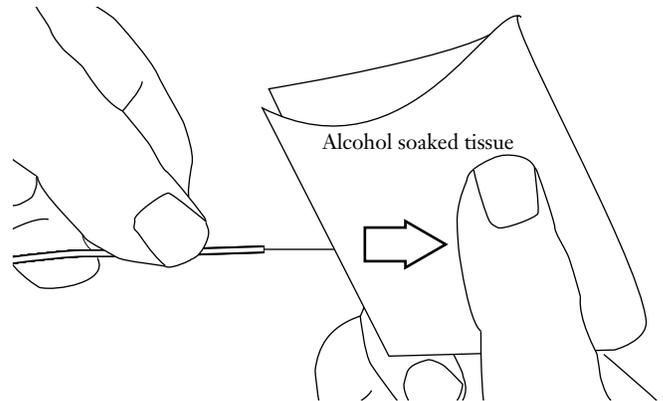

Figure 10
**4.11** Using a lint-free tissue soaked with alcohol, clean the stripped fiber (Figure 10). Avoid handling the cleaned area of fiber.